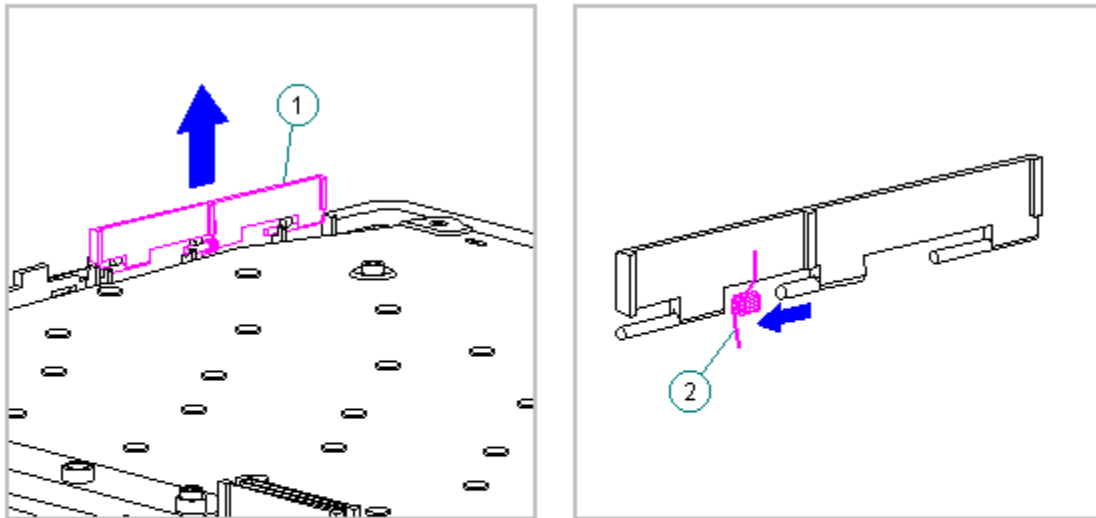

Figure 5-20. Removing the PC Card Door and Spring from the Keyboard Assembly
3. To remove the PC Card door from the keyboard assembly, unsnap the PC Card door [1] from the posts, and remove the door (Figure 5-20).
4. Remove the spring [2] from the PC Card door (Figure 5-20).